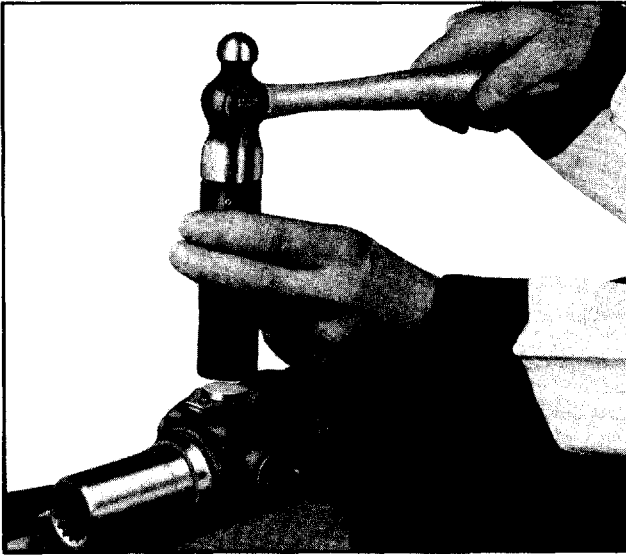

Fig. 4-50 Removing Bearing From Splined Yoke Member
b. Using a piece of pipe or similar tool with diameter sufficiently large to encircle bearing (slightly larger than one inch), apply force on yoke around bearing (Fig. 4-50). This will drive yoke down causing journal assembly (spider) to force bearing partially out of yoke.